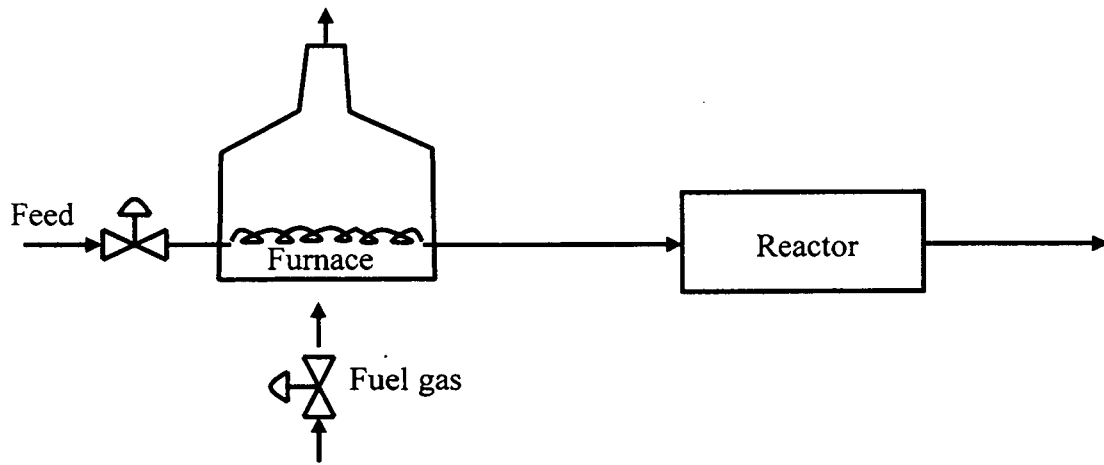

Figure 5. Furnace heating feed to adiabatic tubular reactor
- i) Vapour feed to an adiabatic tubular reactor is heated to about 370°C in a furnace, as illustrated in Figure 5. The reaction in the reactor is endothermic. The exit temperature of gas leaving the reactor is to be controlled at 310°C . Draw an instrumentation and control diagram that accomplishes the following objectives: